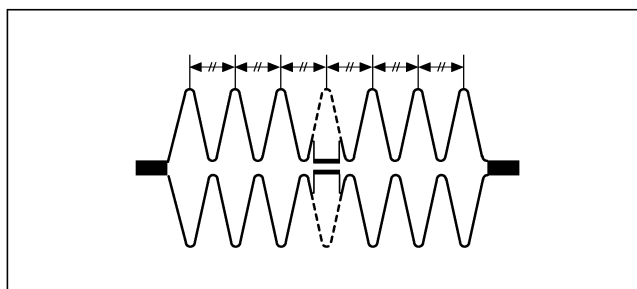

Fig. 4-14
- 1) Play the tracking alignment tape (XH2-1) (Ref. No. J-5) back and enter the REV mode. Confirm that pitches between peaks of RF waveform are equally spaced. (Refer to Fig. 4-14.) If pitches between peaks of RF waveform are not equal, perform sections "4-2 Tracking Adjustment" and "4-4. TG7 Guide Adjustment".
- 2) Enter the CUE mode. Confirm that pitches between peaks of RF waveform are equally spaced. (Refer to Fig. 4-14.) If pitches between peaks of RF waveform are not equal, perform sections "4-2 Tracking Adjustment".